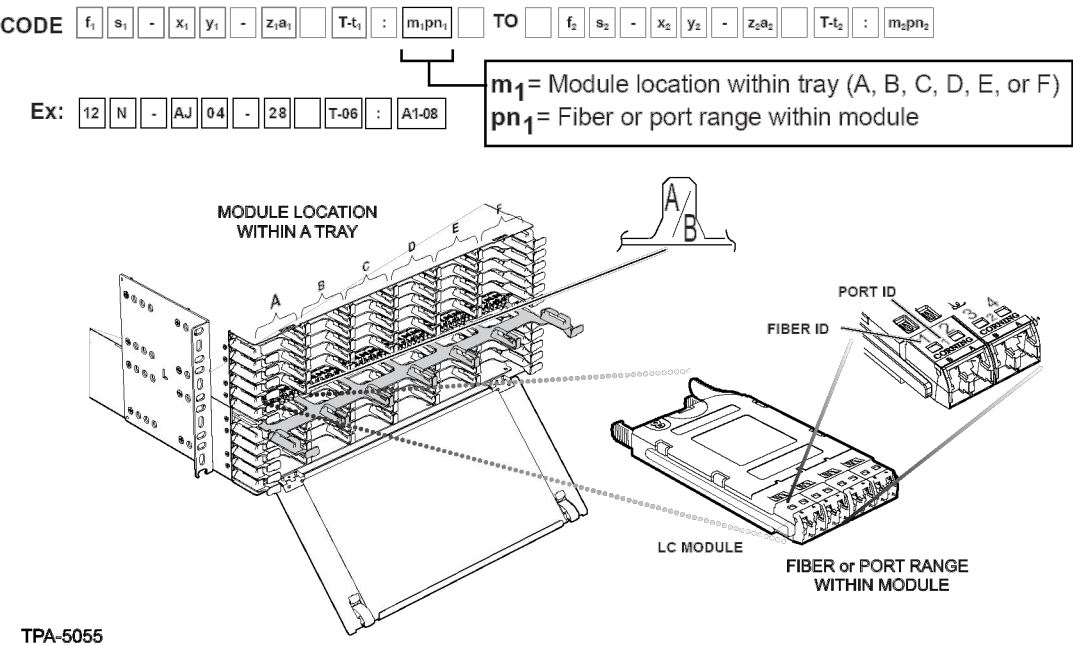

Figure 31 — Module Label Location
Step 4: Module Location with Fiber or Port Range (Figure 31)